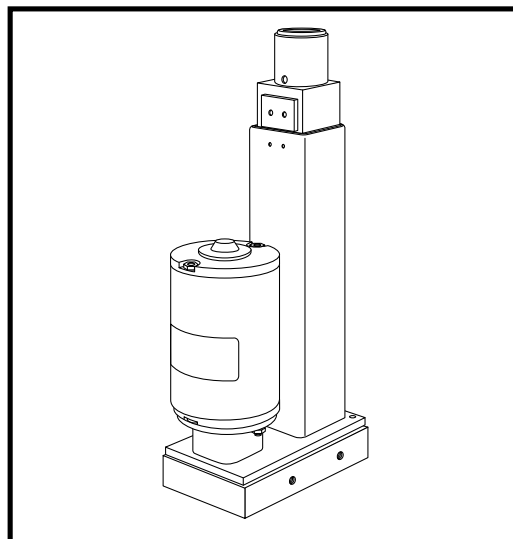

Figure 11. Power Elevating Seat Actuator
1. Align the seat base shaft to the hole in the actuator. See figure 11.